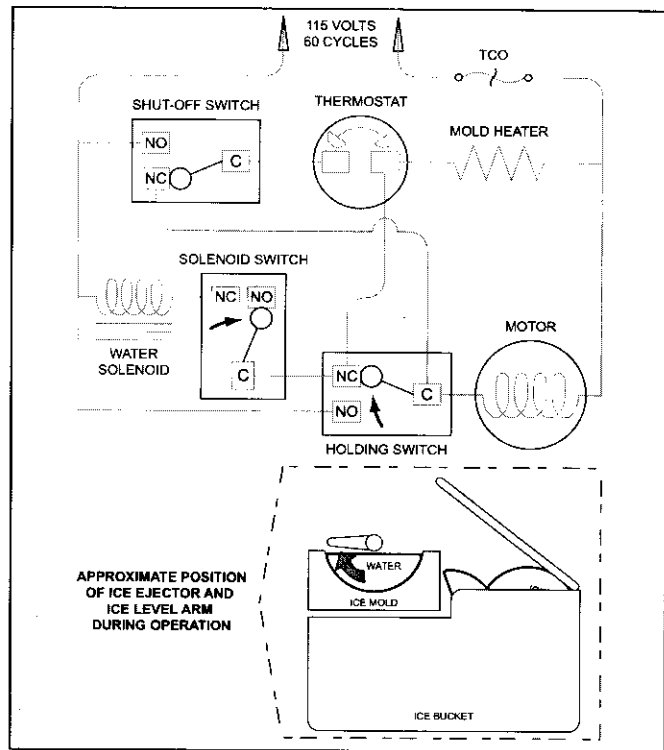

**Figure 6-10. Second Revolution Continued**
**Second Revolution Continued (See Figure 6-10)**